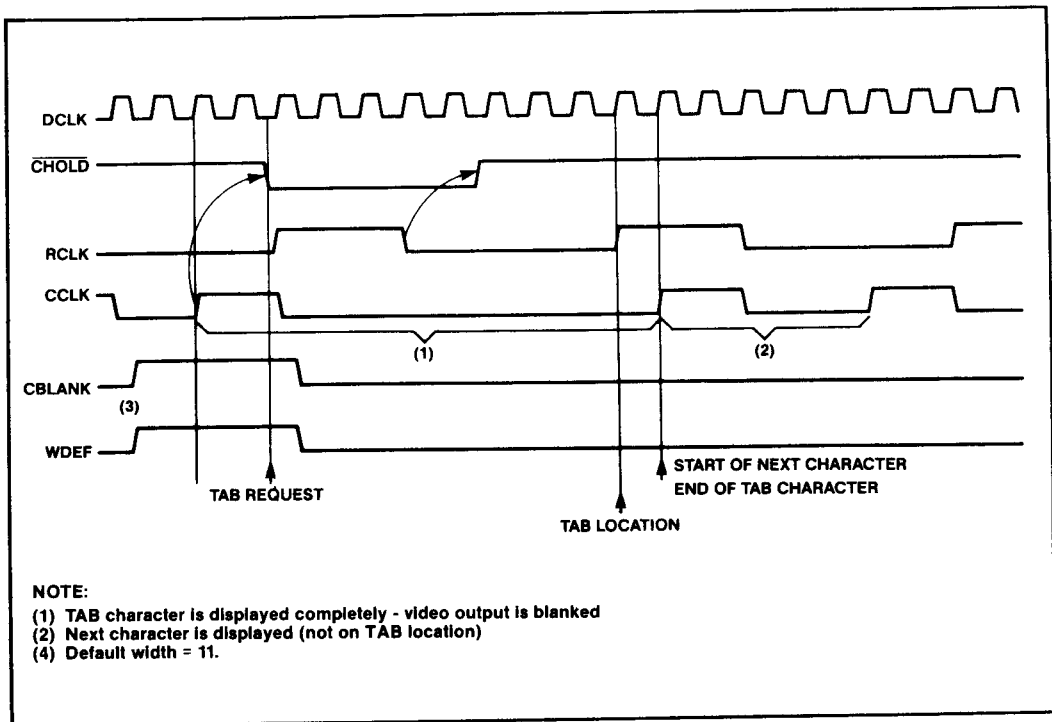

Figure 13. Function of CHOLD with CHOLD Width Less than Character Width (Case 3)
- 3) TAB-character is not terminated when reaching the TAB-location (see Figure 13). The following character will be displayed subsequently after the display of the TAB-character (i.e. the start of the following character is not at the TAB-location).